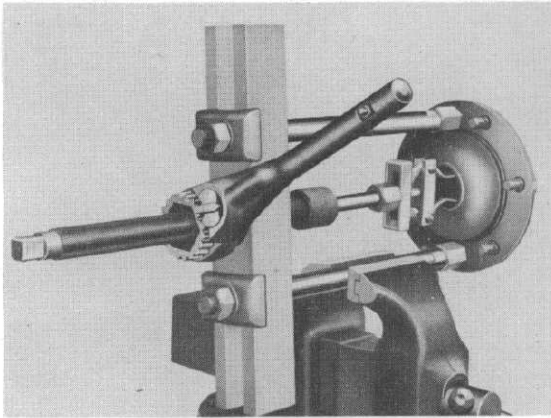

Fig. 10
- a. Pull the outer bearing cups as shown in Figure 10.